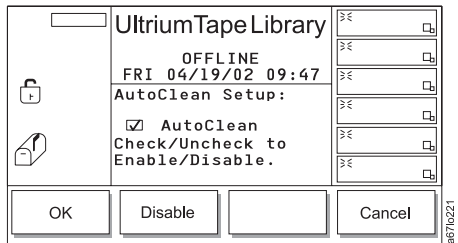

Figure 4-83. Autoclean Setup screen
4. Press the button below the **AutoClean** softkey. The Autoclean Setup screen displays (see Figure 4-83).